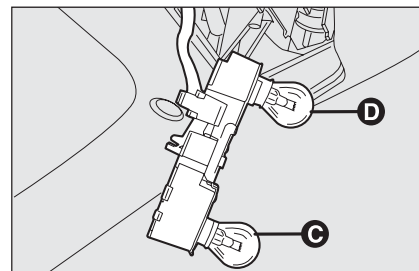

fig. 37
- ☐ remove and replace the burnt-out bulb by pressing it slightly and turning it counterclockwise **fig. 37**: